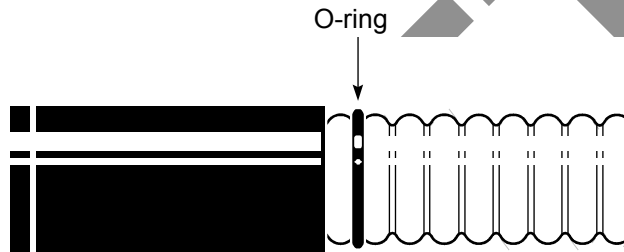

Figure 70 – Installing the small O-ring
2. Install the O-ring on the first corrugation valley as shown in Figure 70.